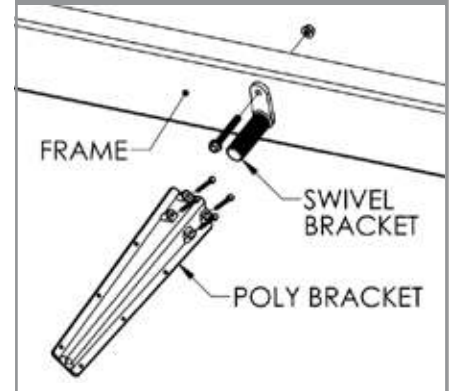

FIGURE 8
- Place four 5/16" x 3" bolts through the (100133) poly bracket and the (100366) backing block to clamp the (PB5015) swivel. (See Figure 8)